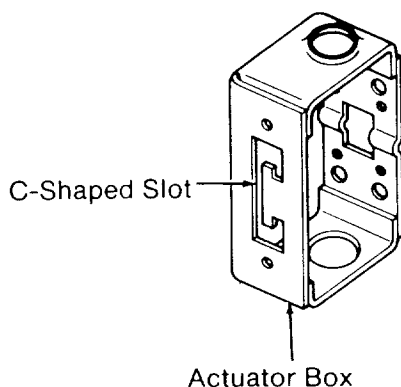

Fig. 23
4. Place an *actuator box* in front of you with the C-shaped slot facing you and the closed surface of the *box* to the left. This will become the *left foot assembly*. (Figure 23)